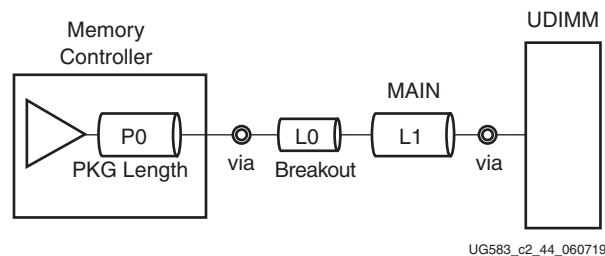
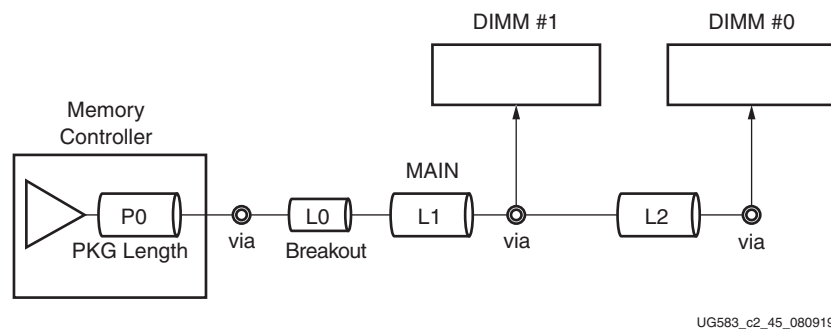

Figure 2-33: CTRL Point-to-Point Routing for DDR3/DDR4 DIMM Topology
Figure 2-34: CMD/ADDR Fly-by Routing for DDR3/DDR4 DIMM Topology
**IMPORTANT:** The Processing System (PS) does not support multiple DIMMs.
**IMPORTANT:** Figure 2-34, Figure 2-36, and Figure 2-37 show configurations with multiple DIMMs. To reduce the effect of SI reflections, always place DIMM #0 on the furthest connector from the FPGA. DIMM #1, if present, should be placed on the connector nearest to the FPGA.
Figure 2-34, Figure 2-36, and Figure 2-37 show configurations with multiple DIMMs. To reduce the effect of SI reflections, always place DIMM #0 on the furthest connector from the FPGA. DIMM #1, if present, should be placed on the connector nearest to the FPGA.
Figure 2-33, Figure 2-34, Table 2-28, and Table 2-30 define the routing topologies and routing guidelines for DDR3/DDR4 DIMM address, command, and control signals. Place four 0402 1.0  $\mu\text{F}$  capacitors in the CMD/CTRL pin area of the DIMM connector. All capacitors should connect from  $V_{CC0}$  to GND.
| Address/command/control: x1/x2 (includes package routing P0) | <a href="#">Figure 2-34</a> | 6.15/6.65 inches, 1042/1127 ps   |
| Address/command/control: x1/x2 (includes package routing P0) | <a href="#">Figure 2-34</a> | 7.15/7.65 inches1212/1296 ps |